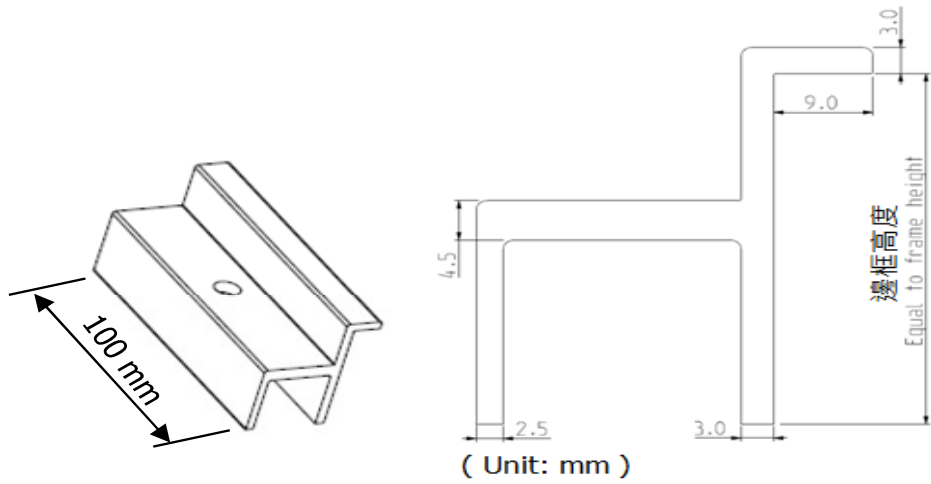

Figure 4: Clamp Specifications
- The material of the clamps should be corrosion-resistant metal material. The recommended specifications of the clamps are illustrated in Figure 4. Clamps approved by the system installer can also be used for installation and clamp (AUO does not provide related clamps).